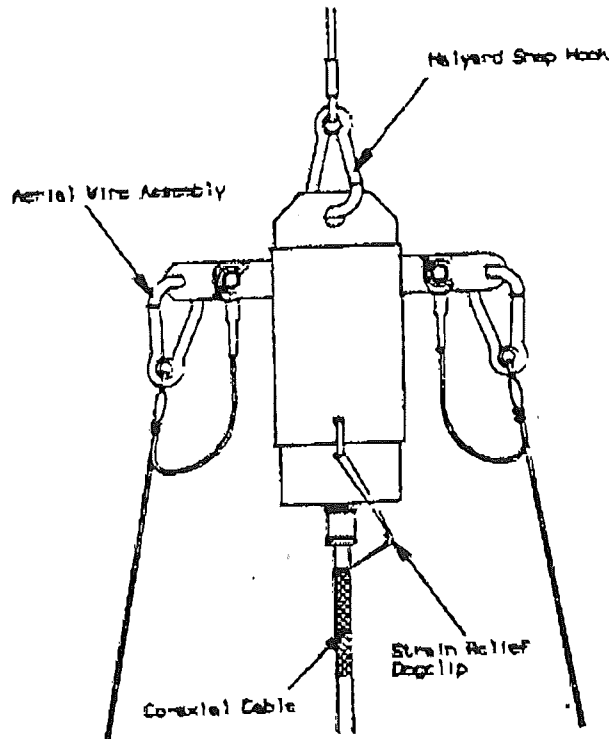

Figure 5-1. Inverted Vee Dipole Balun Connections
- Step 7 Repeat Steps 4, 5 and 6 with the other reel for the second dipole element. (See Figure 5-1.)